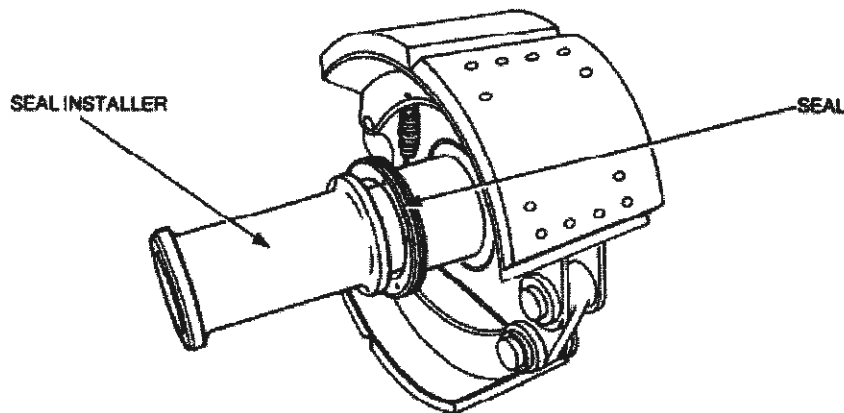

Figure 19 Oil Seal Installation
- Using the fabricated seal installer, seat the seal against the axle flange (Figure 19).